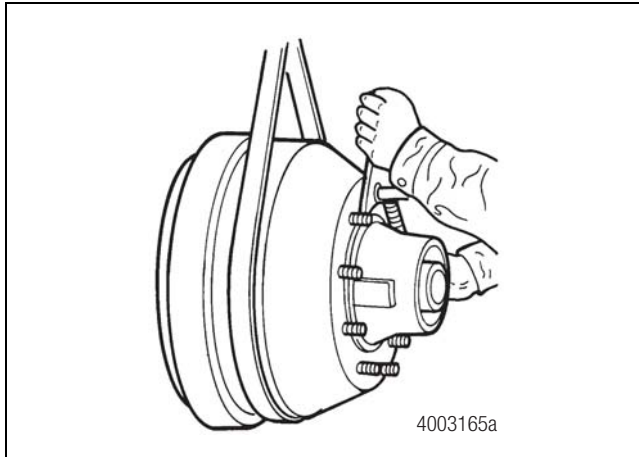

Figure 5.11
4. Support the hub and drum assembly using a sling or other appropriate method. Failure to do so may result in damage to the spindle threads or seal. Figure 5.11.